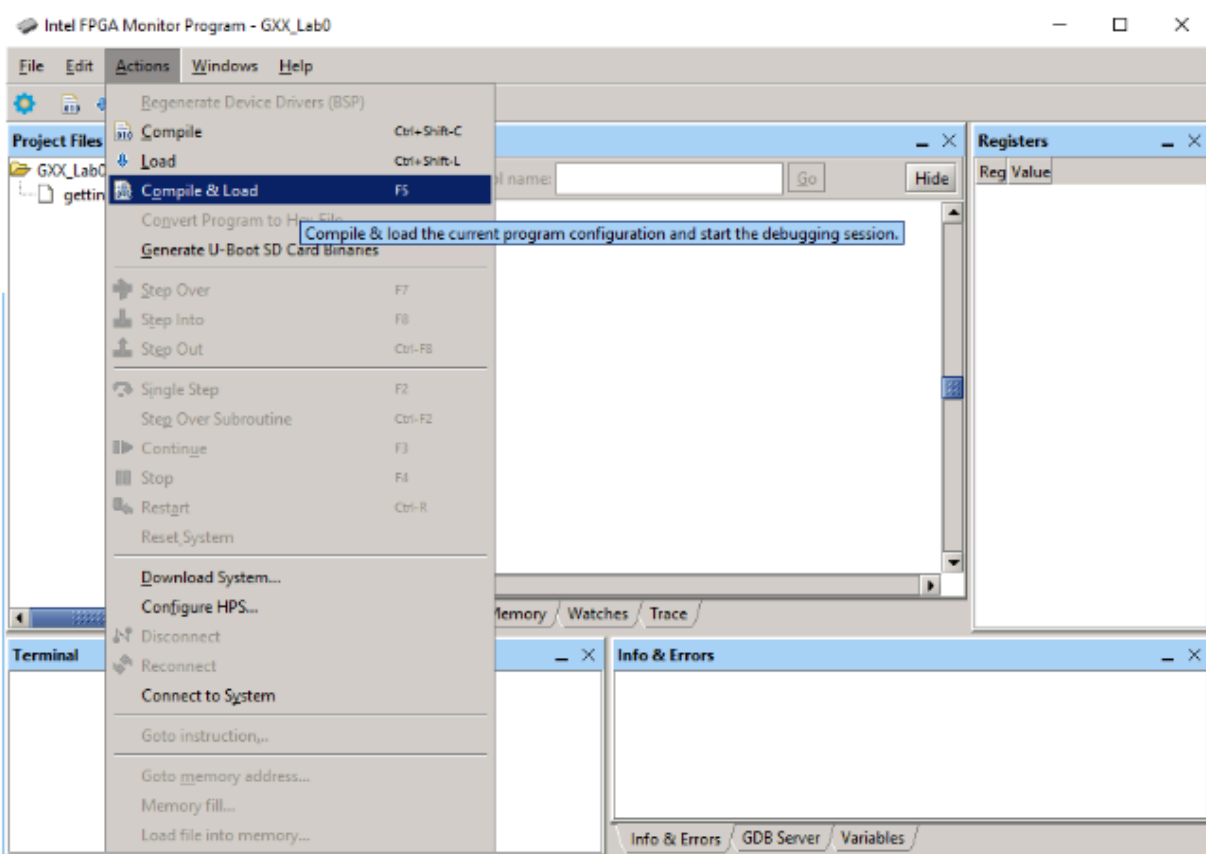

Figure 20: Running the demo program - Step 9
9. Finally, select Action → Compile & Load, and when the project has finished loading select Action → Continue. The demo project should now be running successfully on the board, Fig. 20.